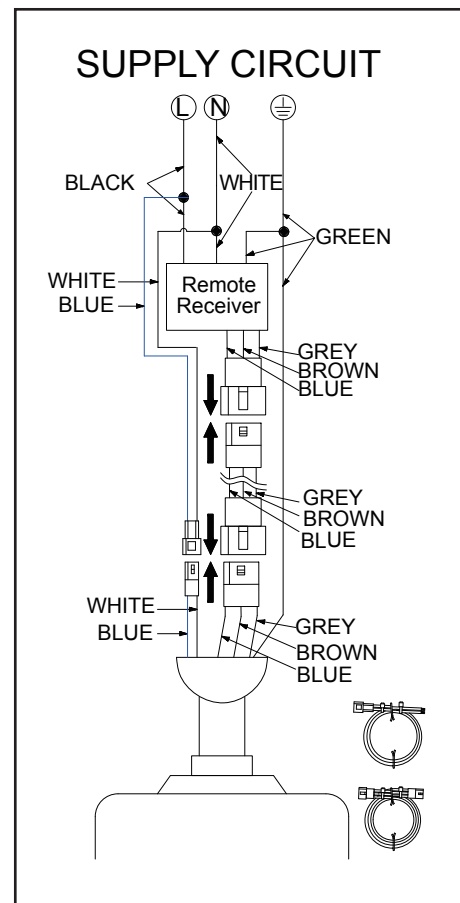

Figure 12
2. If you wish to use longer downrod, you can use the extension lead wire (66 in.) provided, by connecting the molded adaptors together then connecting the blue wire to the household black wire and the white wire to the household white wire using a wire connecting nut. (Figure 12)